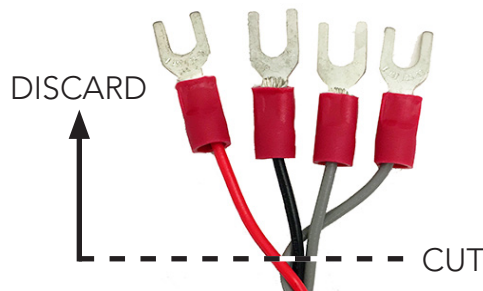

FIGURE 2: Removing Lugs from Receiver Cable
1. Cut off the four spade lugs from the four wires attached to the receiver and discard (Figure 2).